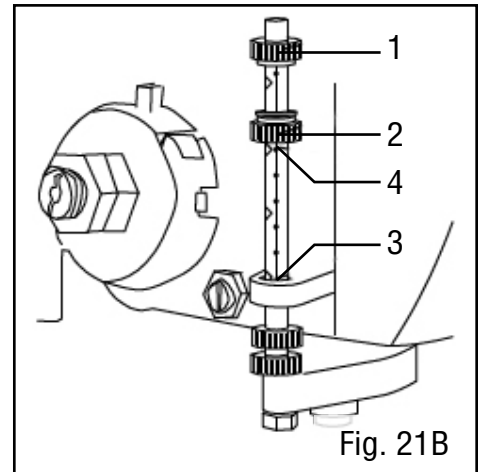

Fig. 21B
DEPTH SCALE METHOD (FIG. 21B)
1. Make sure the 0 (in or mm) mark on the depth gauge rests at the top edge of the metal support (Fig. 21B - 4) when the quill is fully retracted.
4. Rotate the depth knob (Fig. 21B - 2) until it is aligned with the desired depth mark (Fig. 21B - 3) (for example, 1") on the gauge scale.